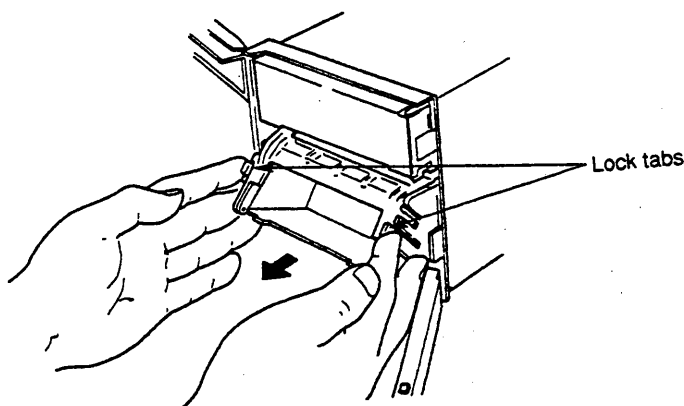

Figure 3-2. Loading the Chart-1
4. Swing the keyboard open by grasping the upper left corner. While gently pressing the chart paper compartment lock tabs (located at the lower right and left front) in the direction of the arrow, swing and lift the compartment away from the unit (see Figure 3-2).